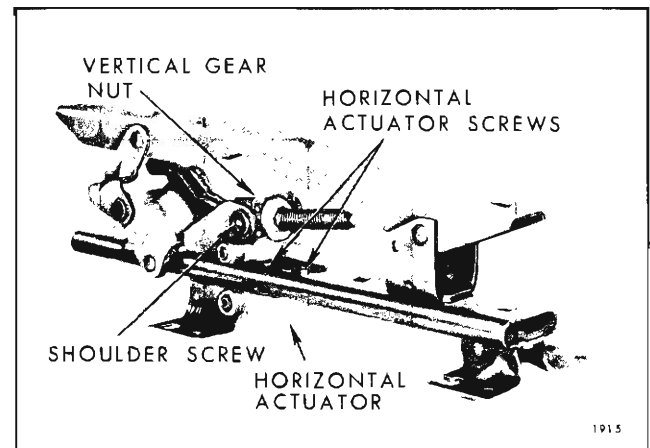

Fig. 2H7—Front Seat Adjuster Four-Way Tilt
4. Using a clutch type screwdriver or other suitable tool, remove shoulder screws securing linkage to vertical gearnut being replaced. (Fig. 2H7).